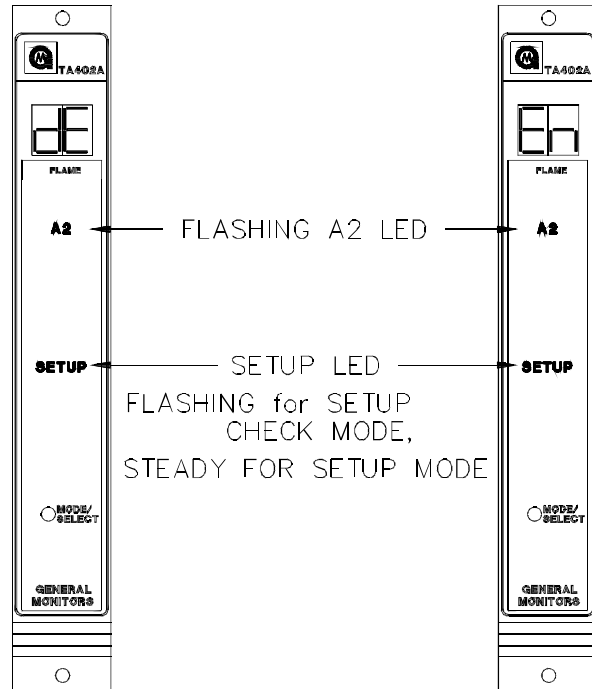

Figure 16
- After the Inhibit mode option, the **A2** LED on the front panel will be flashing while the Energized/De-energized option is displayed (figure 16). The display will indicate the current selection, (**En** or **dE**). Press the Mode/Select switch until the desired option is displayed. De-Energized is the factory default for this selection.